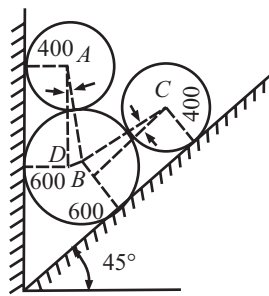

Fig 6.81
Q. 65: Three sphere A, B and C weighing 200N, 400N and 200N respectively and having radii 400mm, 600mm and 400mm respectively are placed in a trench as shown in fig 6.81. Treating all contact surfaces as smooth, determine the reactions developed.
Sol.: From the fig 6.81